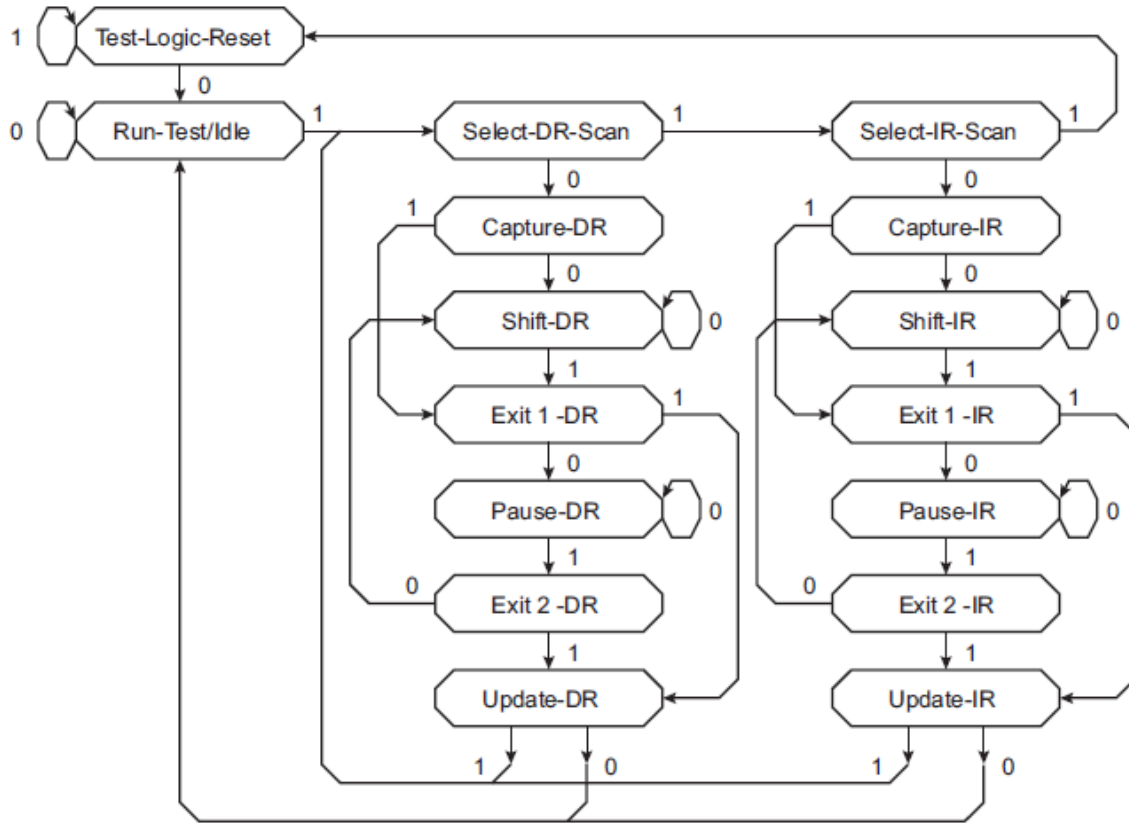

Figure 3.4 TAP Controller State Transition Diagram
The state transition diagram of the TAP controller is shown in Figure 3.4. Each arrow between states is labeled with a 1 or 0, indicating the logic value of TMS that must be set up before the rising edge of TCK to cause the transition.
The following paragraphs describe each of the controller states. The left column in Figure 3.4 is the data column, and the right column is the instruction column. The data column and instruction column reference the data register (DR) and the instruction register (IR), respectively.